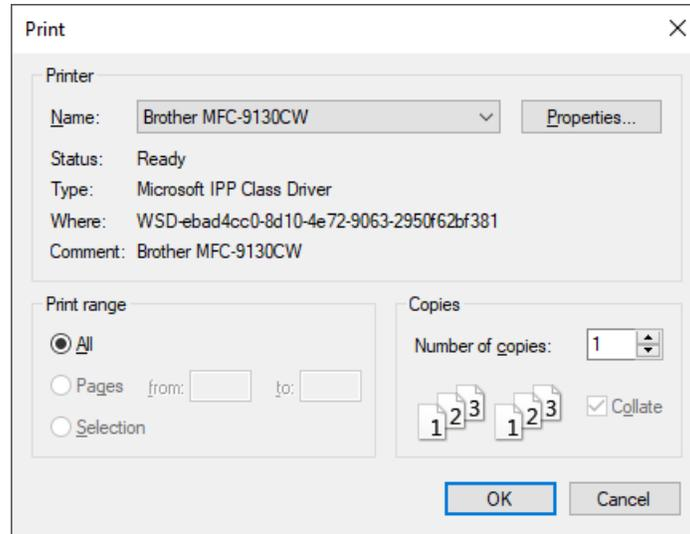

Figure 8 – Standard Windows Printer Configuration Dialog.
1. **Print** - The Task data, including configuration and measured data, are sent to the default printer. A printer setup dialog will appear when the results dialog is closed (**Figure 8**). The printer option allows the user to adjust output line spacing, tab size and left margin. These values should be adjusted to create a proper output to the printer attached to the Precision tester or tester host computer. For most measurement Tasks, the dialog includes a *Header Only* control. When checked, line-by-line output of measured data is disabled to eliminate many output pages that include only columns of number. The printer dialog of **Figure 8** appears only when the Data Presentation dialog is closed. Printing may be cancelled from this dialog.